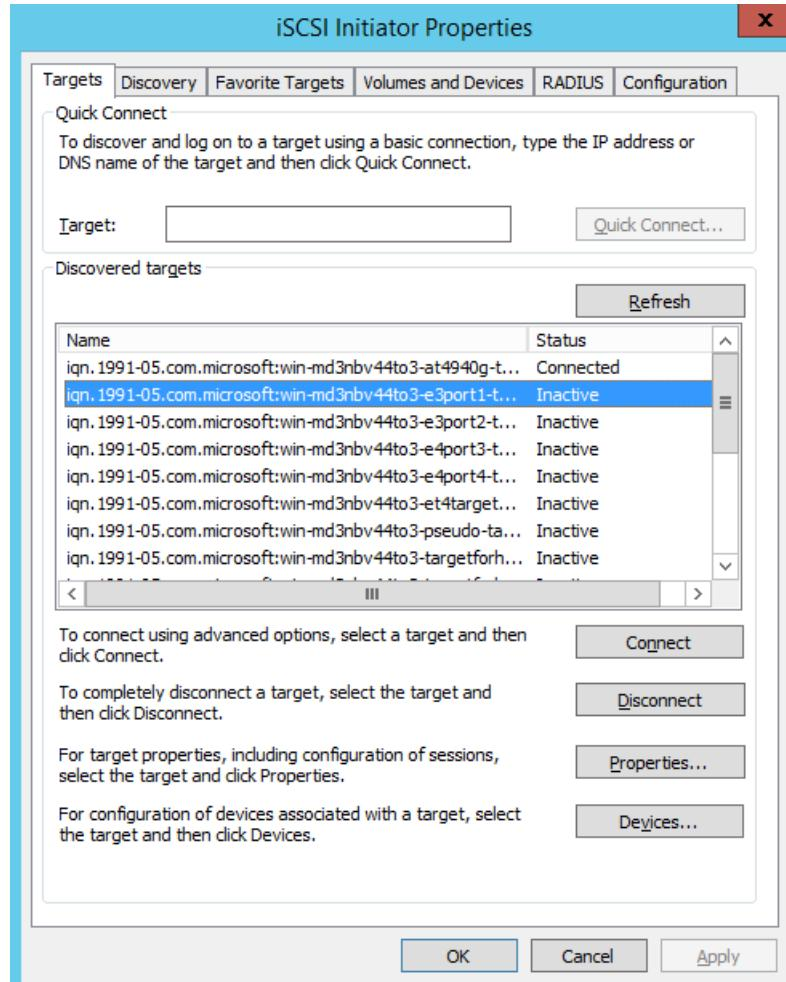

Figure 9-24. Connecting to the iSCSI Target
8. Click the **Targets** tab, and then on the Targets page (Figure 9-24), click **Connect**.